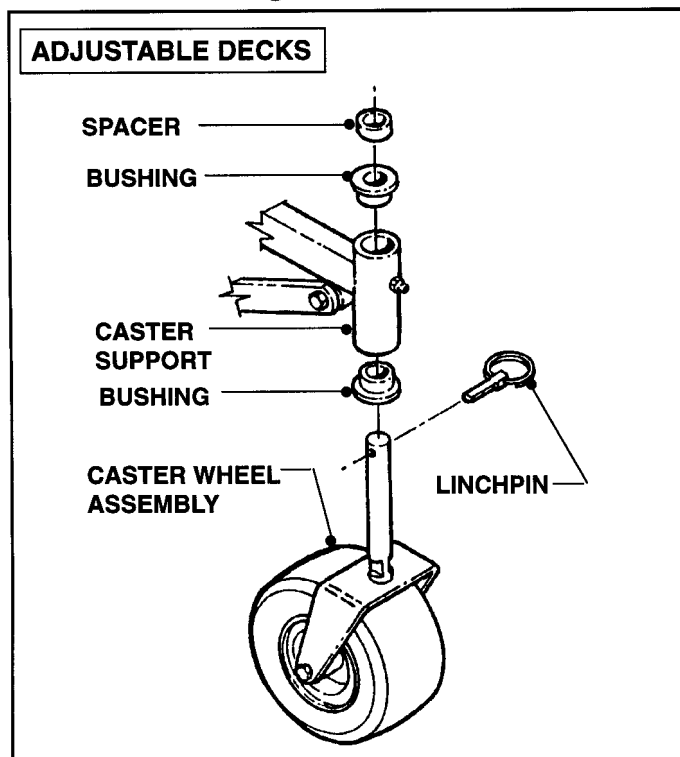

FIGURE 3.6
- F. Remove both Caster Wheel Assemblies. See Figure 3.6. Deck frame weldment can now be repaired (see 3.6, Caster Support Repair) or replaced with a new part.
- Install new bushings (Part No. 2-3556) in each caster support. Seat each bushing using a rawhide mallet. Refer to Figure 3.6.